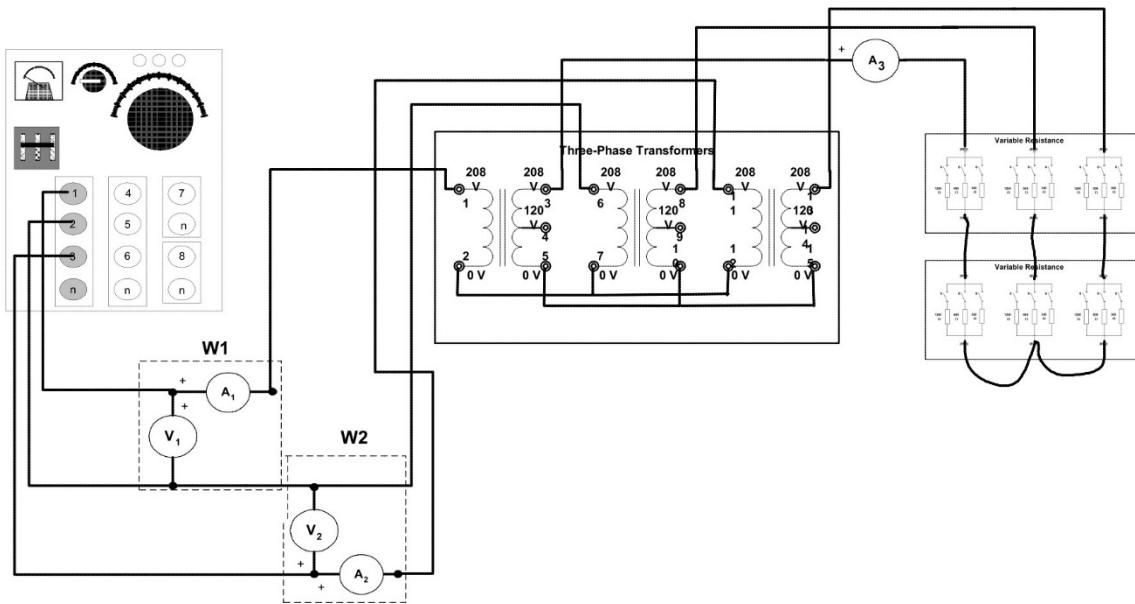

FIGURE 5.8
- 1) Analyze the circuit shown in Figure 5.8 (refer to Figure 5.5 to see how the transformer bank is connected internally) assuming that the transformer ratio of every single-phase transformer is 1:1 and
Step 1: Connect the circuit shown in Figure 5.8. Neutral connection will not be used.